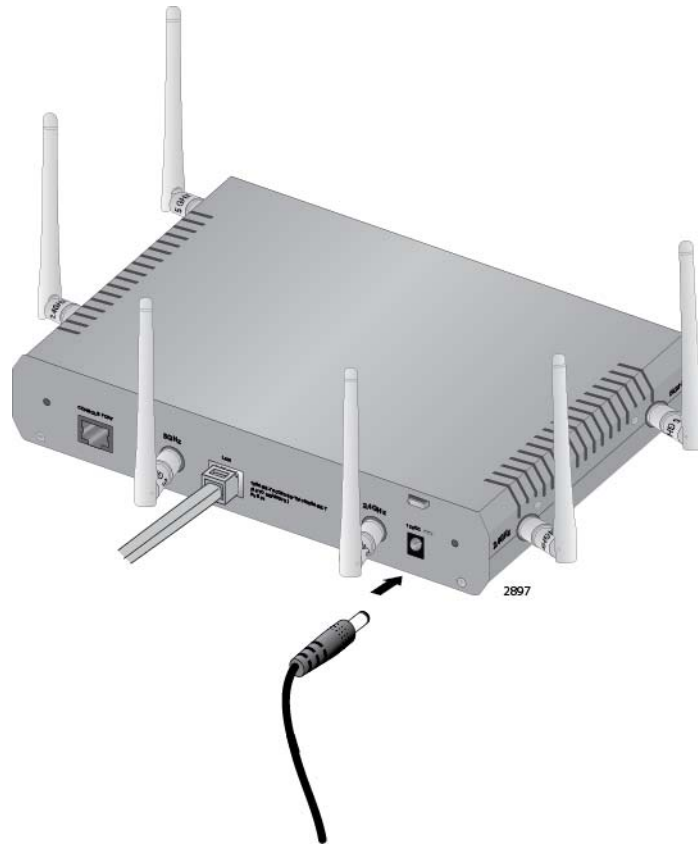

Figure 11. Attaching the DC Power Cable
6. Connect the DC cable on the AC/DC adapter to the 12VDC connector on the access point. Refer to Figure 11 on page 35.